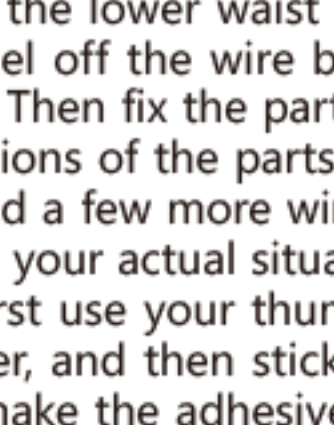

Fig.12
8. There are two positioning pins on the volume control knob of the Bar pickup. Hold the positioning pin close to the sound hole, you can easily find the best fixed position of the sound control knob at the sound hole. As shown in Figure 11, when the best position of the battery pack and volume control knob is found, remove the adhesive sticker and stick it tightly to the wooden board. It is best to clean the dust on the wooden board surface with a rag before sticking it. Then fit. See Figure 12 for how to find the volume control knob.